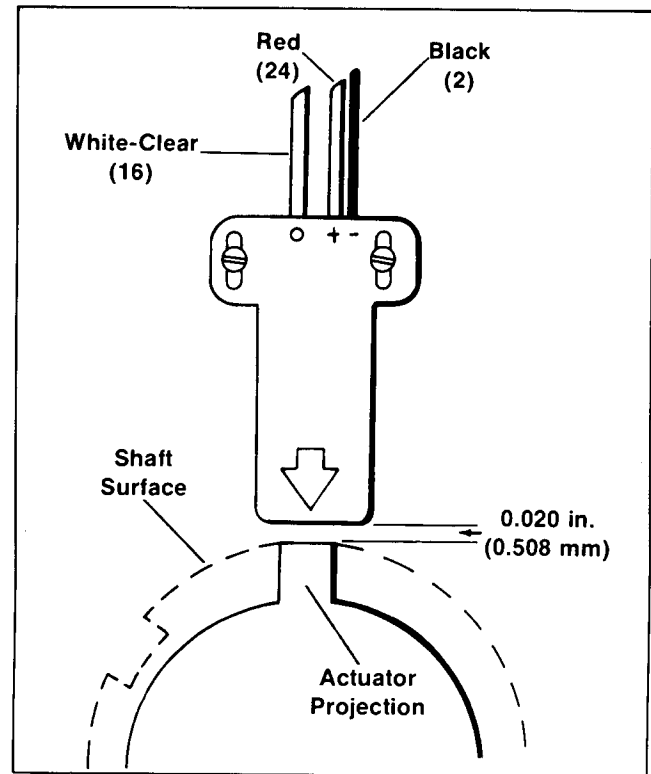

Figure 4-37. Speed Sensor Air Gap
18. Remount speed sensor (if equipped). Turn rotor to position sensing lobe directly below speed sensor. Use a feeler gauge to set air gap between sensor and lobe at 0.020" (0.508 mm) (Figure 4-37).